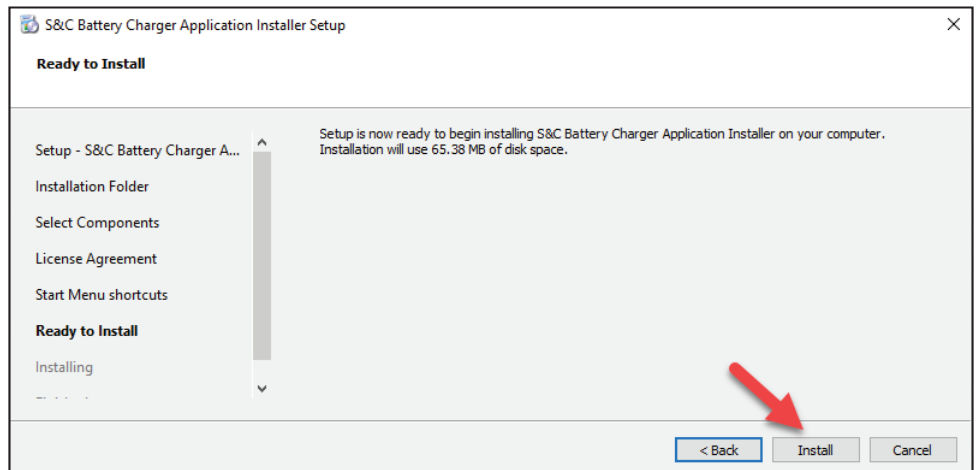

Figure 9. The *Ready to Install* screen.
- STEP 7.** Click on the **Install** button. See Figure 9. During installation, a dialog box will appear giving the option to add a shortcut to the S&C Battery Charger application to the desktop. Click on the **Yes** or **No** button as desired to continue the installation.